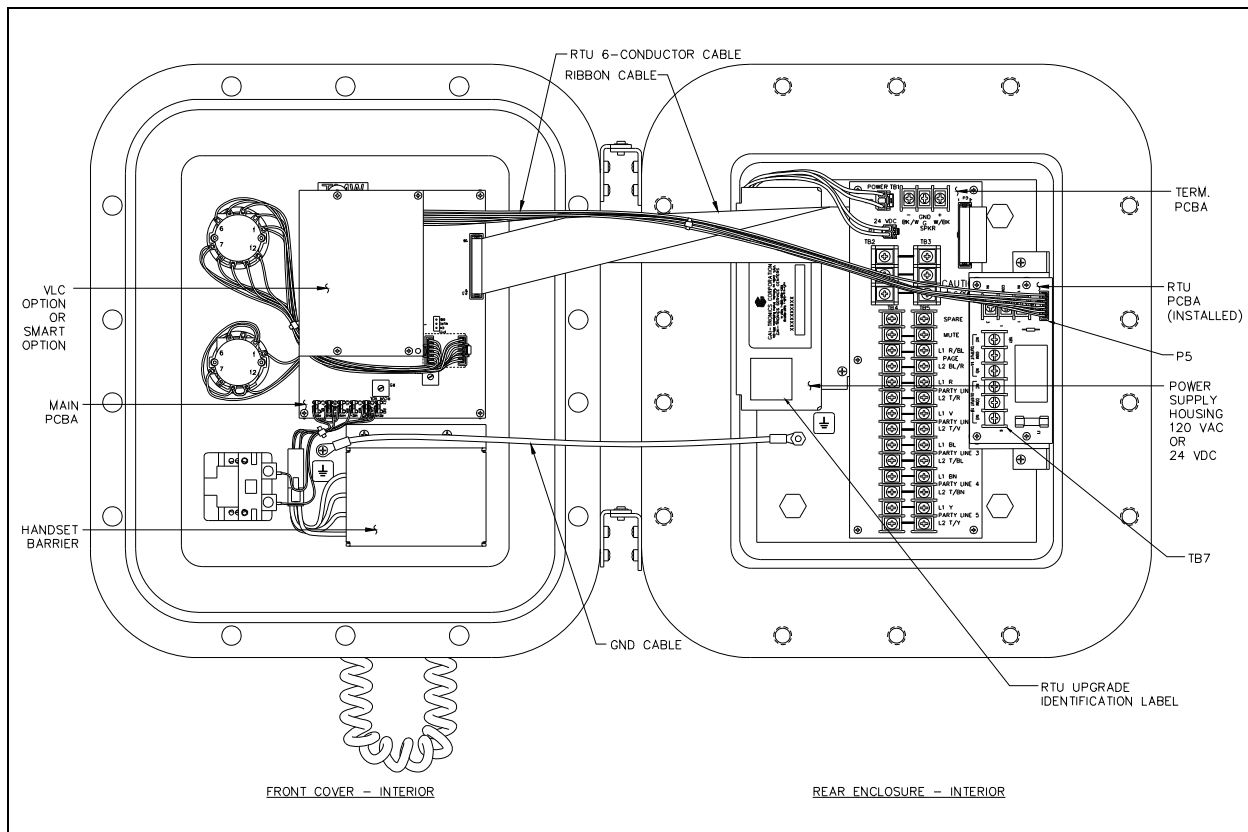

Figure 1. ICS Hazardous Area Station – Interior View
Remove all cover bolts from the enclosure. Swing the front door open to access the internal PCBAs. See Figure 1.
2. Align the RTU PCBA with the four standoffs so that TB7 is oriented toward the Termination PCBA. See Figure 1.
6. Place RTU upgrade identification label on power supply bracket as shown on Figure 1.